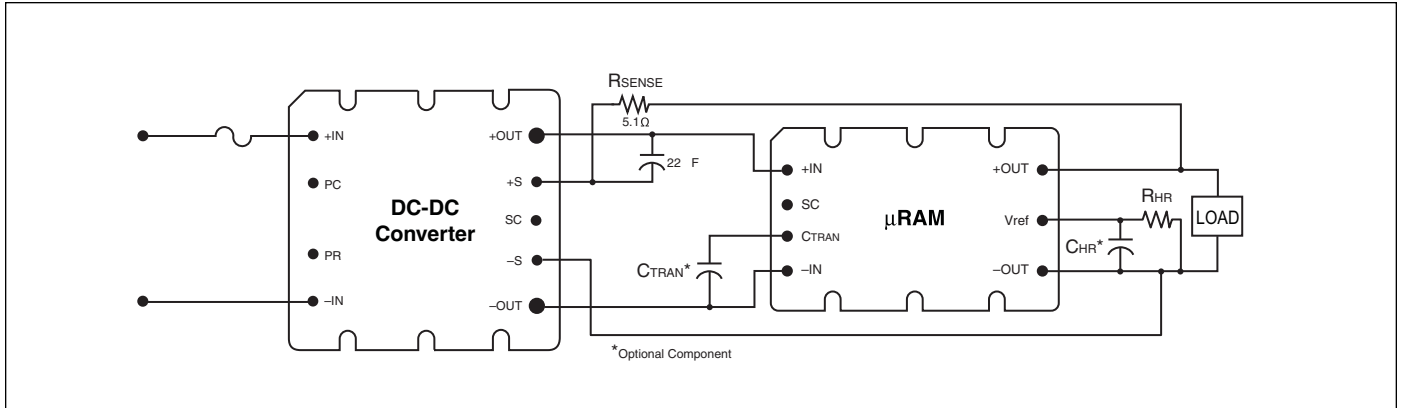
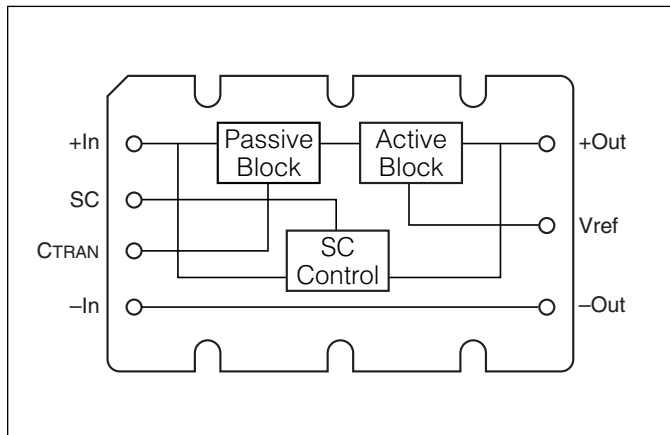

Figure 12-1a — Typical configuration using remote sense
Figure 12-2 — MicroRAM block diagram
The MicroRAM has an internal passive filter, (Figure 12-2) that effectively attenuates ripple in the 50 kHz to 1 MHz range. An active filter provides attenuation from low frequency up to the 1 MHz range. The user must set the headroom voltage of the active block with the external  $R_{HR}$  resistor to optimize performance. The MicroRAM must be connected as shown in Figures 12-1a or 12-1b depending on the load-sensing method. The transient load current performance can be increased by the addition of optional  $C_{TRAN}$  capacitance to the  $C_{TRAN}$  pin. The low-frequency ripple attenuation can be increased by addition of optional  $C_{HR}$  capacitance to the  $V_{REF}$  pin as shown in Figures 12-3a and 12-3b.
**Figure 12-14** — V48C5C100B and  $\mu$ RAM; Input and output ripple @ 50% (10 A) load CH1 =  $V_i$ ; CH2 =  $V_o$ ;  $V_i - V_o = 327$  mV;  $R_{HR} = 31$  k (Configured as in Figures 12-1a and 12-1b)
**Figure 12-15** — V48C5C100B and  $\mu$ RAM; Input and output dynamic response no added  $C_{TRAN}$ ; 23% of 20 A rating load step of 4.5 A (10 A – 14.5 A);  $R_{HR} = 31$  k (Configured as in Figures 12-1a and 12-1b)
**Figure 12-16** — V48C5C100B and  $\mu$ RAM; Input and output dynamic response  $C_{TRAN} = 820$   $\mu$ F Electrolytic; 35% of load step of 7 A (10 A – 17 A);  $R_{HR} = 31$  k (Configured as in Figures 12-1a and 12-1b)